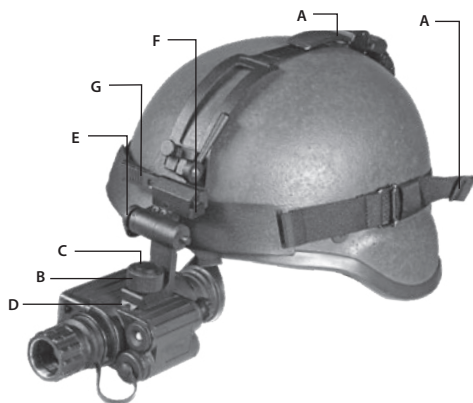

FIGURE 3-3. MOUNTING THE SPARK TO A HELMET
1. Attach the mount to the helmet as shown in Figure 3-3.
2. Adjust and tighten the straps (A).
3. Loosen the screw (B). With the button (C) pushed down, insert the Spark rail into the guide (D) of the helmet mount bracket. Tighten the screw (B).
5. Push the button (F) and move the unit along the slide-rail (G) until the most comfortable position is reached.
5. To adjust the unit for comfort, loosen the screw (B) and move the unit along the guide (D).
7. To remove the Spark and turn it around, push the button down (E) and lift the unit up until it reaches the top position.
8. Push the same button (E) to lower the Spark into the proper viewing position.
In Figure 3-3, the Spark is shown in the correct position for the left eye. To readjust the Spark for the left eye, reverse its positioning and reinstall it on the helmet mount bracket (see Figure 3-3). Use the second unit rail located on the opposite side of the unit. Push the button (F) and move the unit along the slide-rail (G) until the most comfortable position is reached.